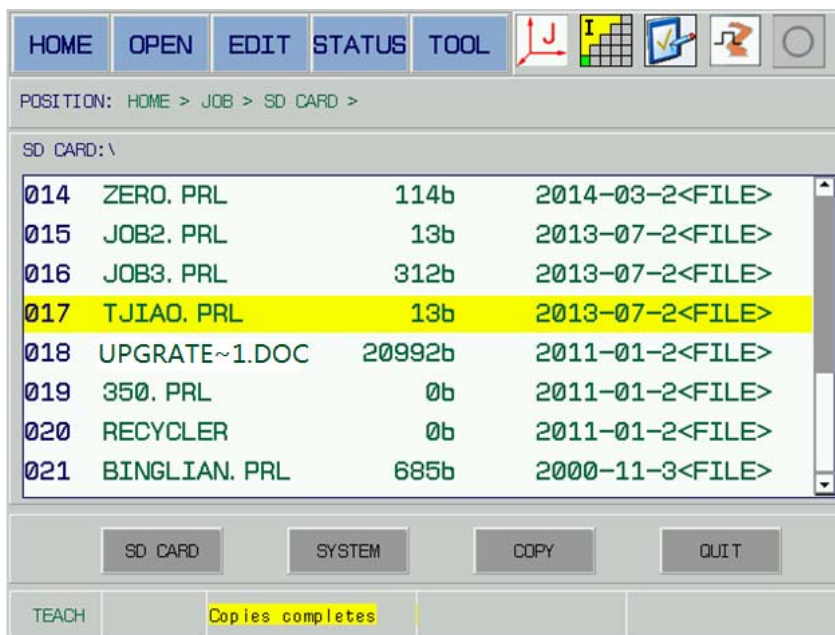

Fig. 5-27
5. Move the cursor to “YES” by left/right direction button, and then complete the program copy by [SELECT]; refer to Fig. 5-27.